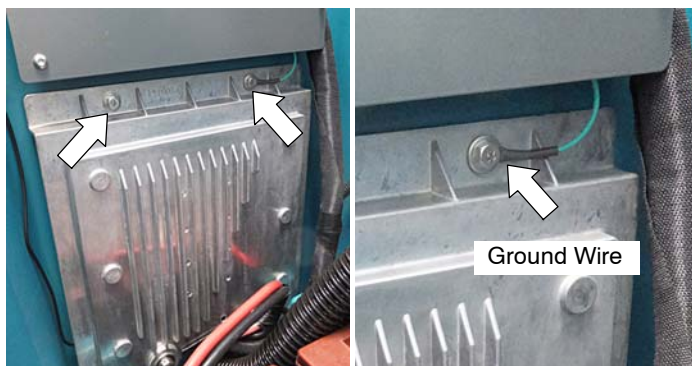

Fig. 12
14. Carefully lift panel into position and re-fasten. Make sure to reconnect the ground wire to panel (Figure 12).